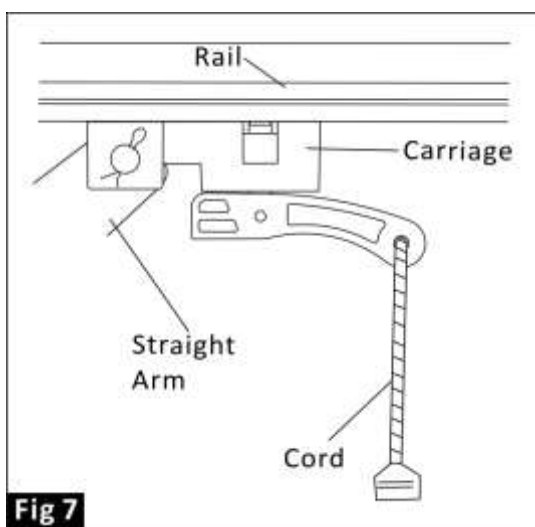

Fig 7 Automatic/Engaged Position
- 12.2 Release the Red Cord (Fig.7) and press the black "Run" Button located on the bottom of the Opener or the hand transmitter.